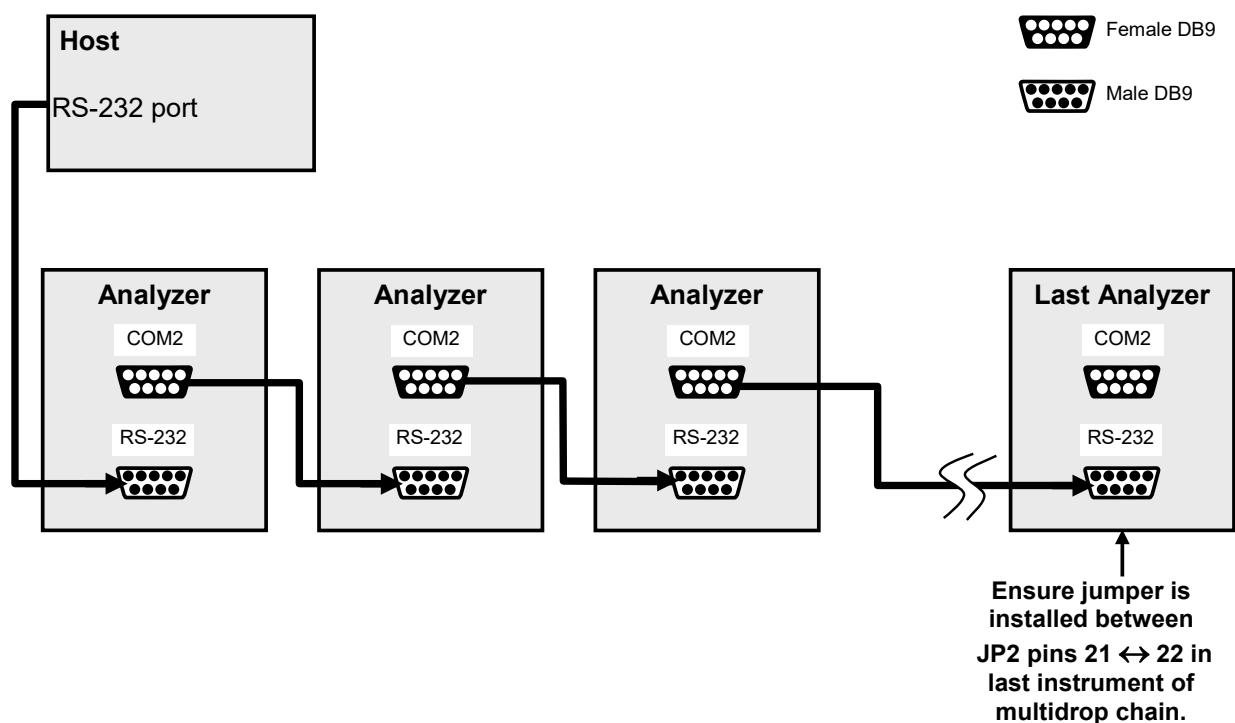

Figure 5-4: RS232-Multidrop PCA Host/Calibrator Interconnect Diagram
5. Referring to Figure 5-4, use straight-through DB9 male-DB9 female cables to interconnect the host RS232 port to the first instrument's RS232 port; then from the first instrument's COM2 port to the second instrument's RS232 port; from the second instrument's COM2 port to the third instrument's RS232 port, etc., connecting in this fashion up to eight instruments, subject to the distance limitations of the RS-232 standard.